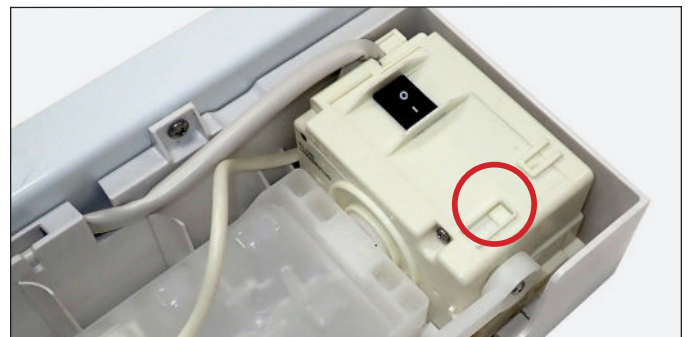

FIG. 8. Test button located on underside of icemaker by TRUE logo.
7. Press and hold the test button* on the icemaker (see fig. 8) for 5-10 sec. Then, check the water filter area for leaks. If leaks are detected, repeat step 6.